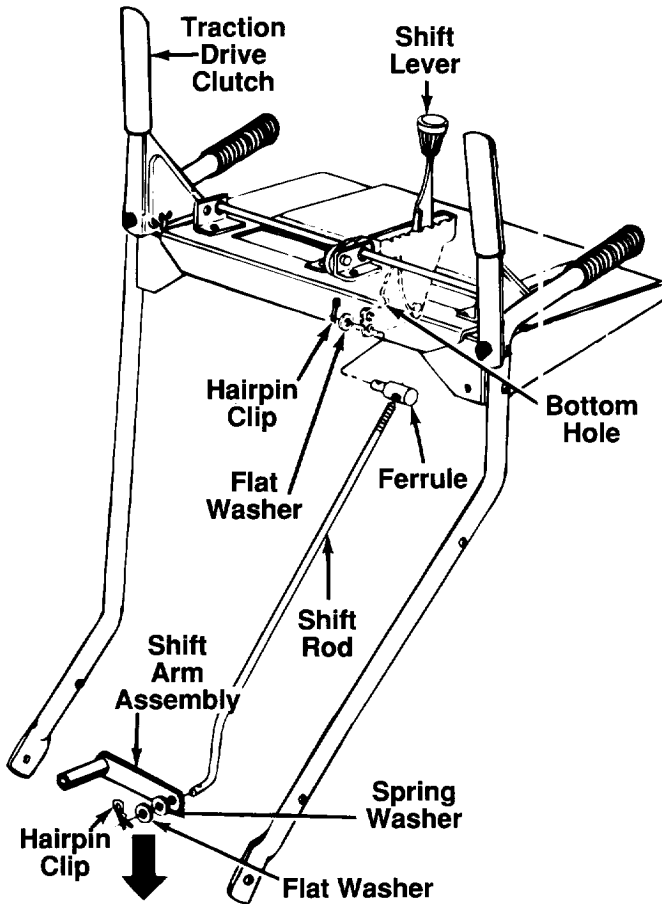

FIGURE 7.
1. Insert the ferrule through the **lower** hole in the shift lever (beneath the handle panel) from the left side. Secure with flat washer and hairpin clip. See figure 7.
2. Place the shift lever in the sixth (6) speed position (all the way forward).